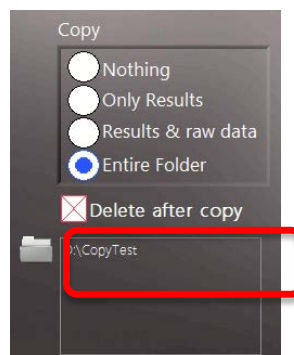

Figure 24: Copy and Destination Location section
The copy destination is selected in the **Destination Location** function, as explained below (see Figure 24).
This setting determines what results should be copied to the destination location at the conclusion of an assay run. If the checkbox next to “**Delete after copy**” is selected, a cartridge’s entire data folder will be deleted from the internal hard disk after being successfully copied to the destination location (Figure 24).
- Destination Location** - The destination where the results should be copied to is displayed in the field directly below the **Delete after copy** checkbox. Set the path by using the folder icon  next to the destination location field (see red box in Figure 24).